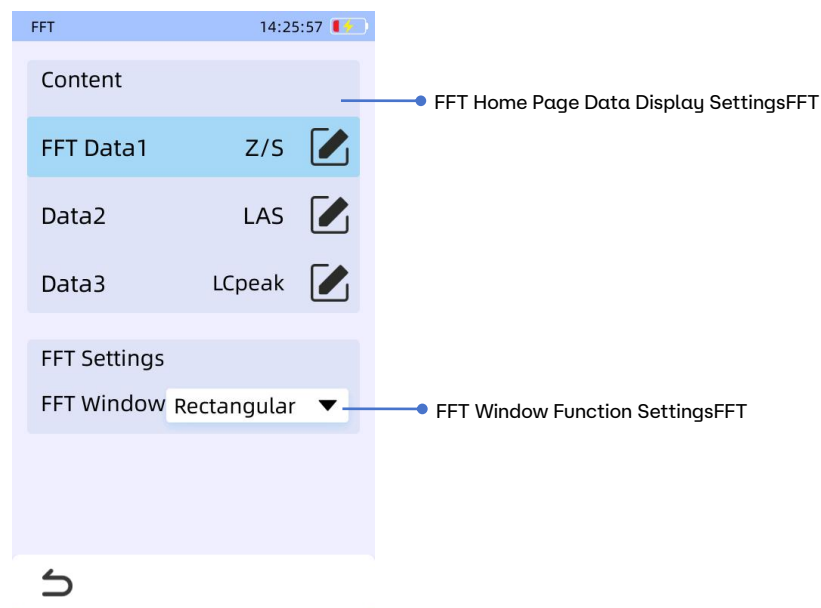

Fig 6.56 Spectrum Analysis Display Content Settings
- c. In the display content settings, FFT window function settings can also be configured, as shown in Figure 6.56. The window functions include: Hanning, Rectangular, Blackman, and Flat Top.